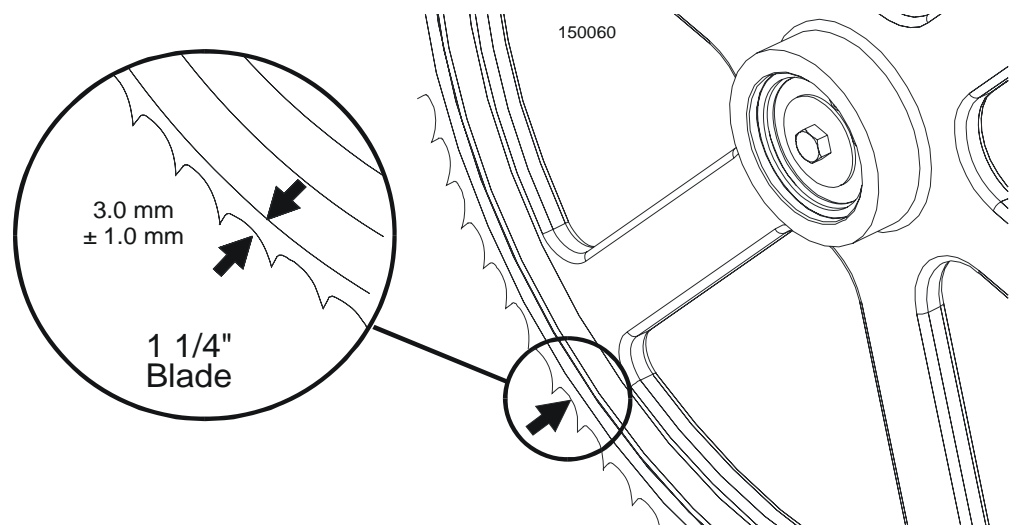

FIG. 5-6
**See Figure 5-6.** The horizontal tilt of the blade wheel should be adjusted so that the gullet of an 1-1/4" blade is 3.0 mm out from the front edge of the wheel ( $\pm 1.0$  mm).